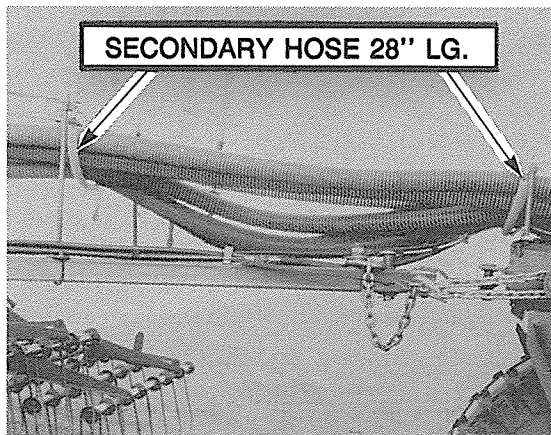

Figure 22
- (o) Loop chain around the primary hoses with the secondary hose over the bottom half of the chain. See Fig. 22.